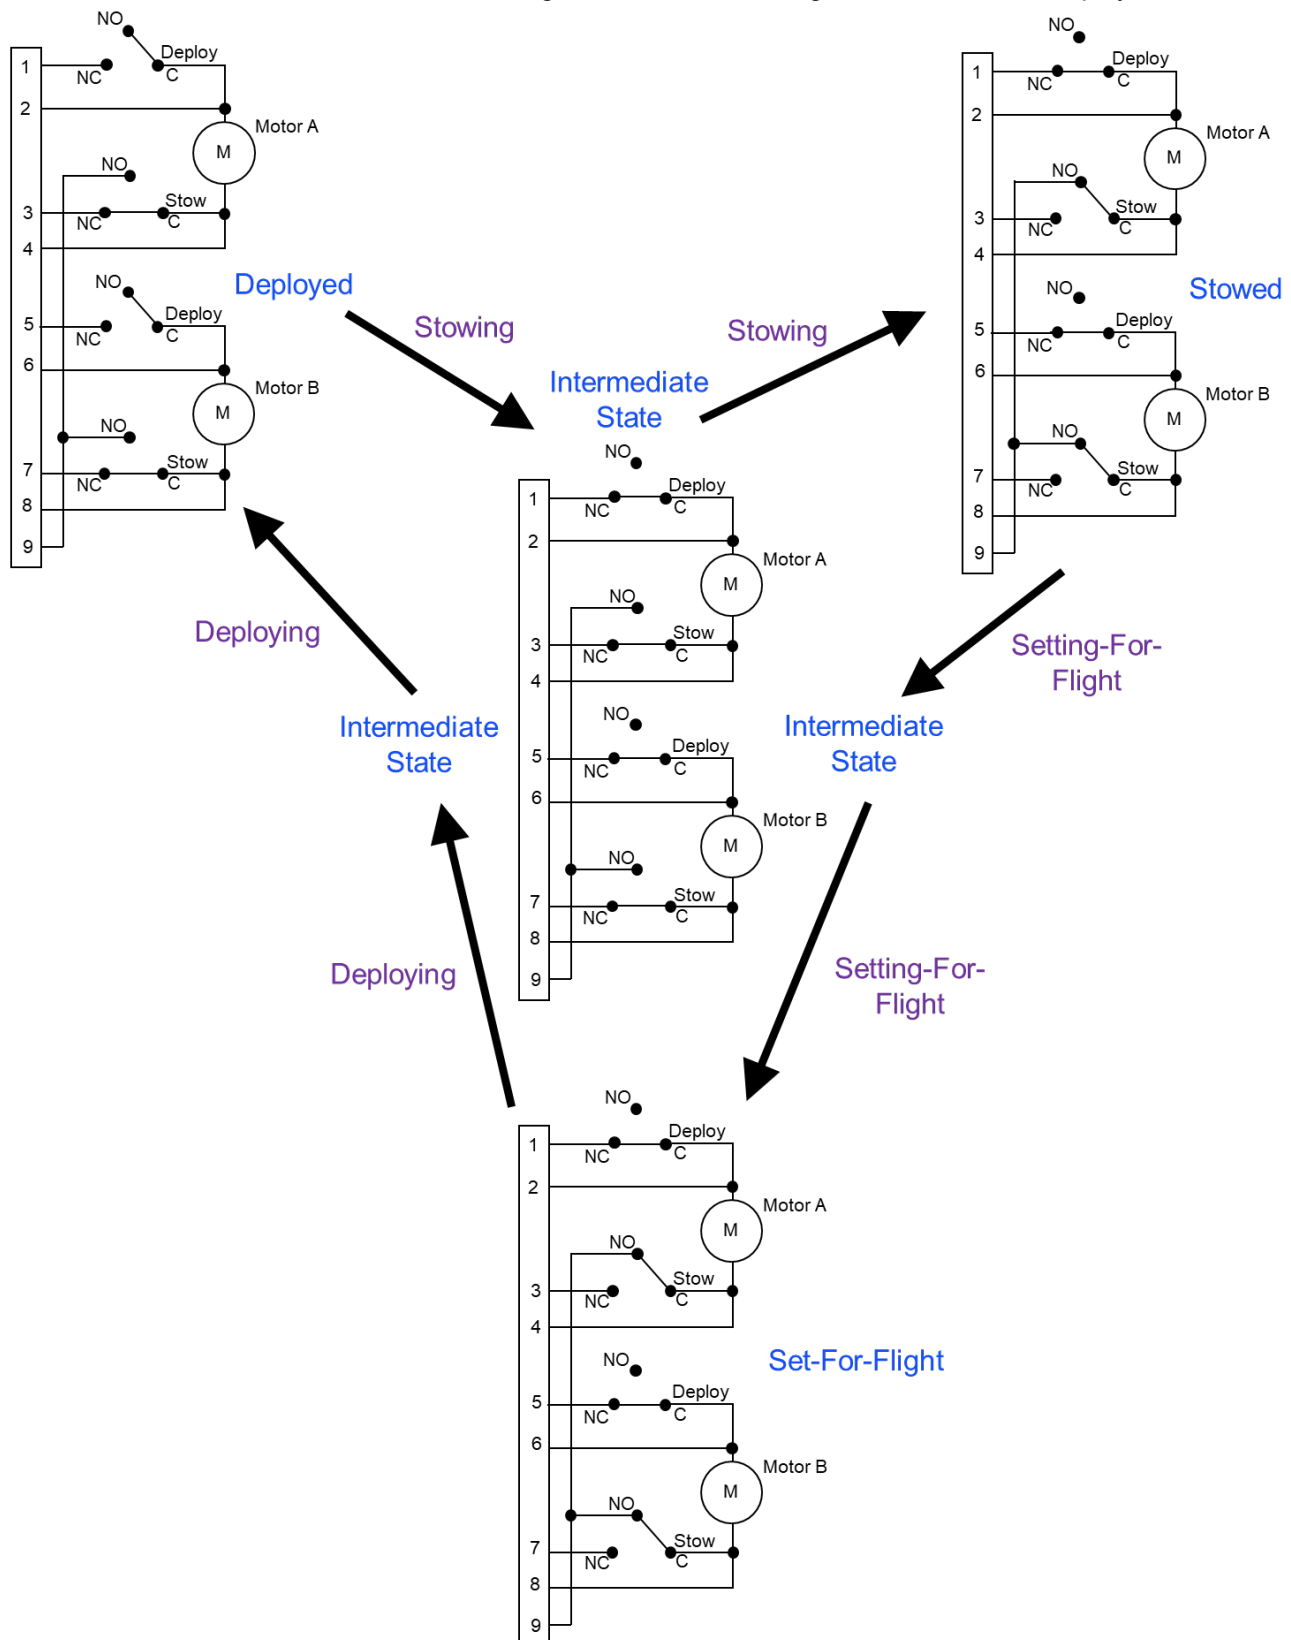

Figure 14-1: Lightband switch states
11.4.12	<p>Measure resistance directly at the Lightband's DB-9 socket connector and complete Table 11-2. Contact PSC if a discrepancy is found.</p> <p>PSC recommends using a DMM. It will not cause damage to or operate the Lightband. If using a milliohm meter (four wire Kelvin probe system) ensure the test current is <0.01 A to prevent rotating the motors.</p> <p>See Figure 14-1 for the Deployed Motor Bracket Assembly switch state.</p> <p>Note: ensure the mating DB-9 pin connector is visibly clean to prevent contaminating the Lightband's socket connector.</p>
Figure 14-1 shows the switch states during and after each Lightband operation. Note that Stowed and Set-For-Flight have the same final switch states. During operation, the switches temporarily change to the Intermediate State shown below. This occurs when the Sliding Tube is not contacting either the Stow or Deploy limit switches.
1. During the Stow and Deploy operations, the Lightband's switches will change state to a temporary intermediate position as shown in Figure 14-1.